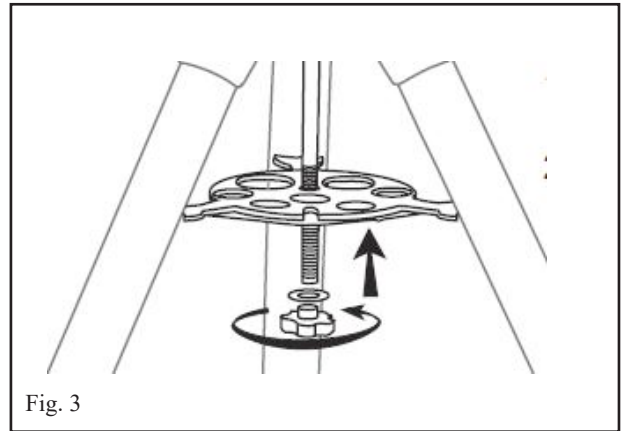

Fig. 3
4. Attach the accessory tray by sliding it along the primary locking shaft until it pushes against the tripod legs. Secure the locking knob, as shown in **Fig. 3**.